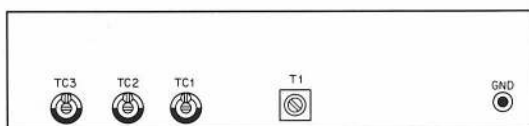
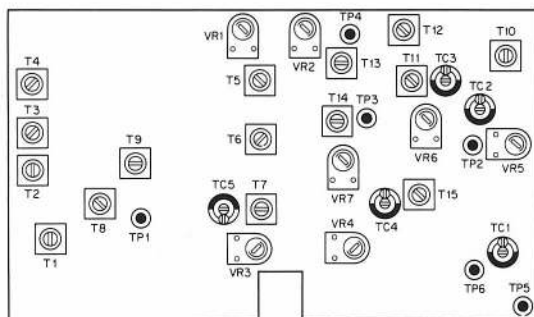

Fig. 21 CAR unit
Fig. 24 IF unit
- 1) Connect RF VTVM to TP5 in IF unit (X48-1150-00) and adjust oscillation coil T1 in CAR-1 unit (X50-1310-00) until the meter reads 50mV (refer to Fig. 21). (refer to Fig. 24 IF unit)
- Adjust T1 to T7 in IF unit (X48-1150-00) and T2 in RF unit (X44-1150-00) until S meter reads maximum value (refer to Fig. 24 and Fig. 25).
- 2) Turn the RF GAIN knob fully counterclockwise and adjust VR3 and TC5 in IF unit (X48-1150-00) alternately until the output becomes minimum (refer to Fig. 24).
- 1) After receiving marker signal and turning ON NB switch, adjust T8 and T9 until the terminal voltage at TP1 on IF unit (X48-1150-00) becomes minimum (refer to Fig. 24).
- 1) After adjusting each section until sensitivity becomes maximum, adjust VR1 in IF unit (X48-1150-00) under no signal condition, thus making zero point adjustment of S meter (refer to Fig. 24).